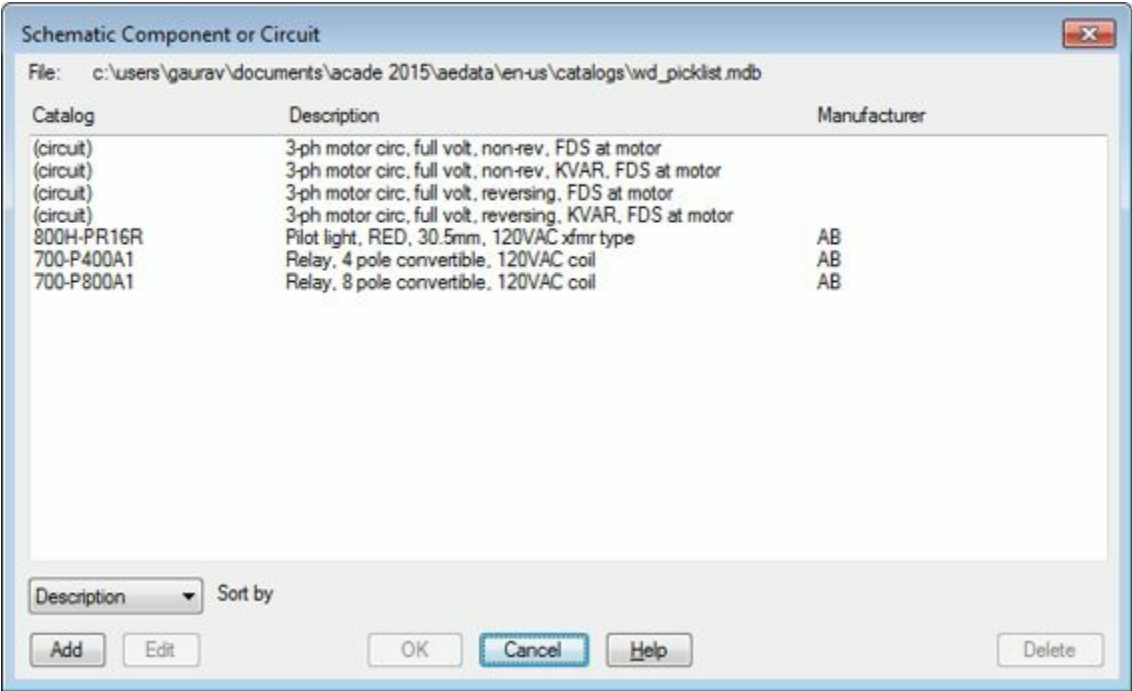

Figure-24. Schematic Component or Circuit dialog box
- Select the **User Defined List** tool from the Component drop-down. The **Schematic Component or Circuit** dialog box will be displayed as shown in Figure-24.